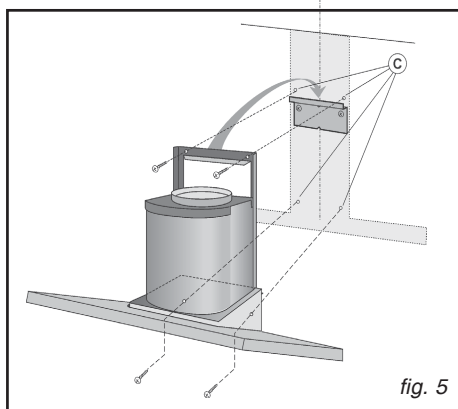
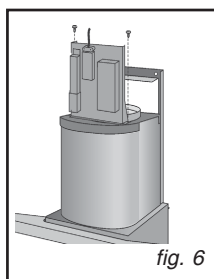

fig. 5
fig. 6
- Hang the hood on the bracket (Fig. 5). Adjust the horizontal position moving the hood to the right or left so that it is aligned with the wall units.
- When adjustment has been completed, without removing the hood, mark the other 4 holes to be drilled (C) in the wall. Remove the hood and drill the holes marked (8 mm diameter). Then use the 4 screw anchors and the 4 screws provided for final fixing.
- Mount the plate of the electrical system fixing it with 2 screws (Fig. 6).